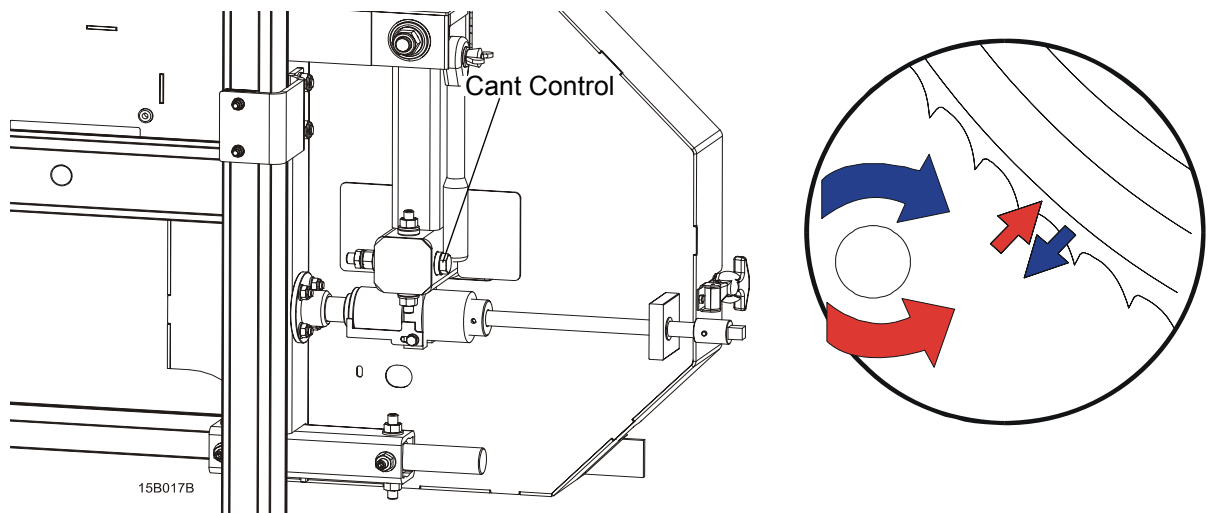

FIG. 6-6
**See Figure 6-6.** Use the cant control adjustment to adjust the idle-side blade wheel. If the blade is too far forward on the wheel, turn the cant control counterclockwise. If it is too far back on the wheel, turn the cant control clockwise.